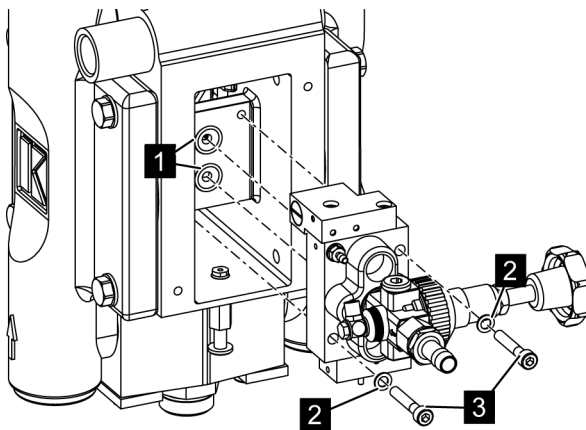

Fig. 18: Pump
- 13.** ➤ Replace the seals (Fig. 18/1).
- 14.** ➤ Insert the complete unit into the pump and screw it to the pump with the screws (Fig. 18/3) and the locking washers (Fig. 18/2)